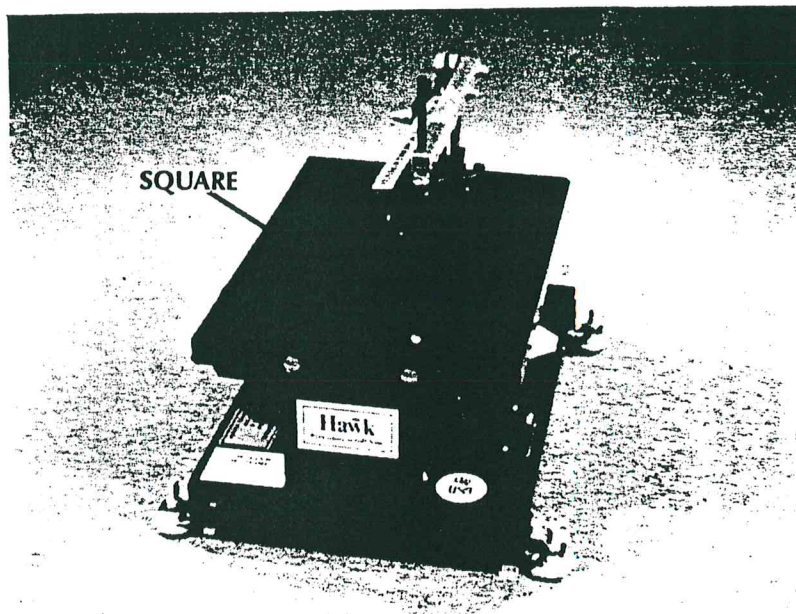

Fig. 11
1. Place a small 90° square on the table with the back edge of the beam against the blade. (fig. 11)